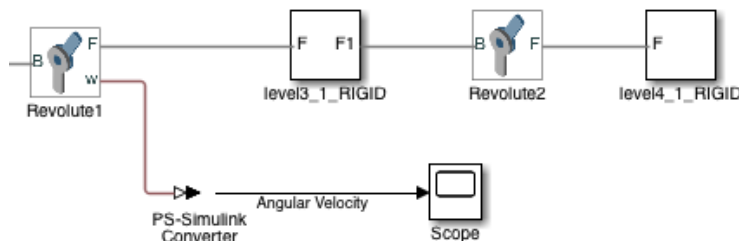

Figure 20: Middle Joint Angular Velocity Output
12. Add a “PS-Simulink Converter” and “Scope” block to the diagram and connect them as shown in figure 20.